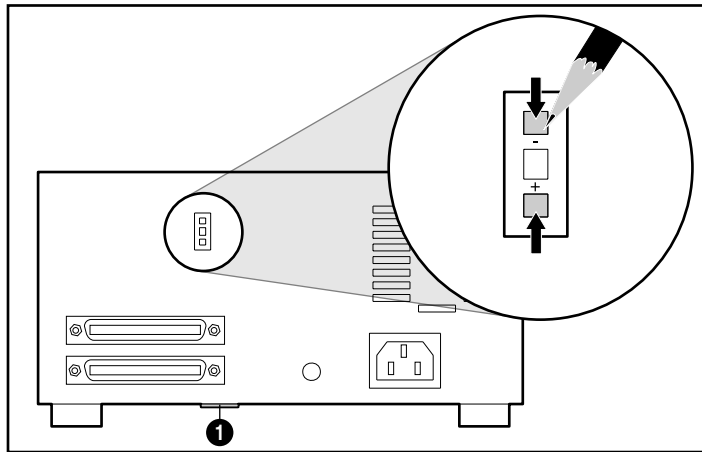

Figure 2-6. External AutoLoader SCSI and options switches
1. Set the SCSI ID using the switch at the rear of the DAT AutoLoader (See Figure 2-6). The SCSI ID switch can be adjusted by using a pencil or similar object to click the “+” and “-” buttons. The SCSI ID **default** is **6**.